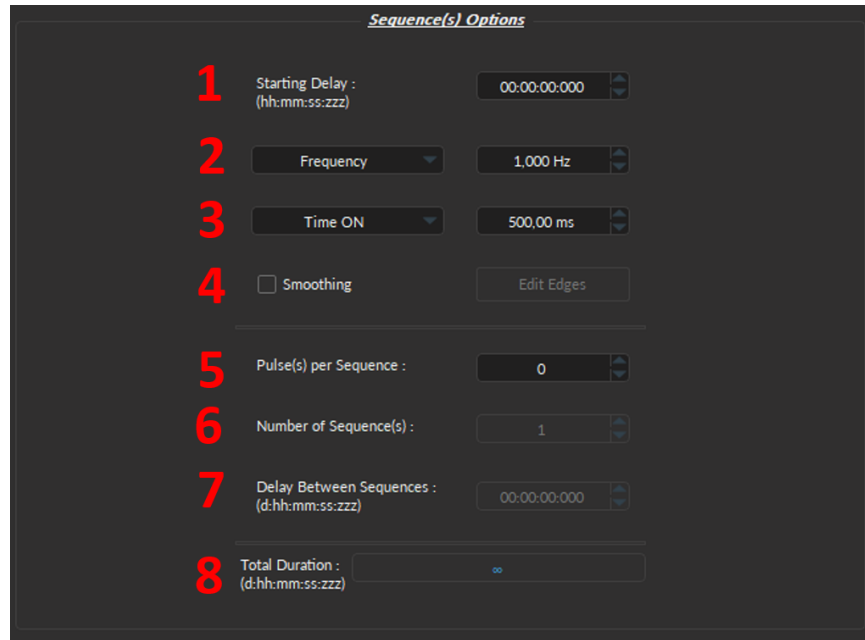

Figure 4.16: Light Source Channel Configuration Window, Square Sequence Options
1. The **Starting Delay** (Fig. 4.16) sets the delay (in hh:mm:ss:zzz format) before the first pulse.
2. The **Frequency/Period** (Fig. 4.16) sets the frequency (in Hz) or period (in ms) for the pulse sequence. For example, a signal at 10 Hz (frequency) will output one pulse every 100 ms (period), whereas a pulse sequence at 0.5 Hz (frequency) will output one pulse every 2000 ms (period).
3. The **Time ON/Duty Cycle** (Fig. 4.16) sets the time (in ms) or the duty cycle (in %) for each pulse. The **Time ON** must be lower than $(1/\text{frequency}) + 0.005$ ms, while the **Duty cycle** must be below 100 %. These squares will appear red should an impossible **Frequency/time ON** be selected. Should the **Smoothing** option be selected, this feature becomes inaccessible.
5. The **Pulses per sequence** (Fig. 4.16) sets the number of pulses per sequence. If it is set to 0, the pulse will be repeated indefinitely.
6. The **Number of sequences** (Fig. 4.16) sets the number of times that the sequence will be repeated. If it is set to 0, the sequence will be repeated indefinitely.
7. The **Delay between sequences** (Fig. 4.16) sets the delay (in hh:mm:ss:zzz format) between each sequence if the **Number of Sequences** is greater than 1.
8. The **Total Duration** (Fig. 4.16) displays the total time of the experiment. The different values can be *Inf* for infinite, a valid time value or *Err* if the **Time ON** value is greater than 1/frequency.